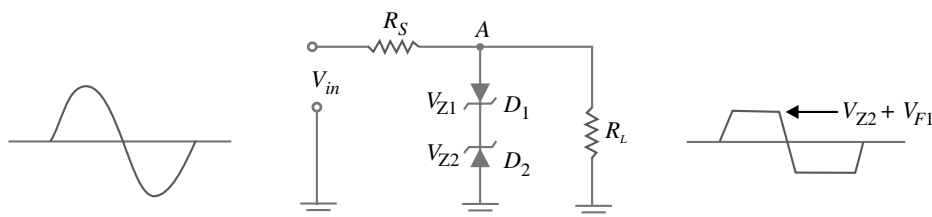

Fig. 16.50
**Example 16.22.** Fig. 16.50 shows a symmetrical zener shunt clipper with sine wave input. Determine the output waveform.
**Solution.** The *symmetrical zener clipper* uses two zener diodes that are connected as shown in Fig. 16.50. When the input is positive,  $D_1$  is forward biased and  $D_2$  is reverse biased (assuming that the value of  $V_{in}$  is high enough to turn both diodes ON). When both diodes are conducting, the voltage from point A to ground will be equal to the sum of  $V_{Z2}$  and the forward voltage drop of  $D_1$  i.e.  $V_{F1} = 0.7$  V.